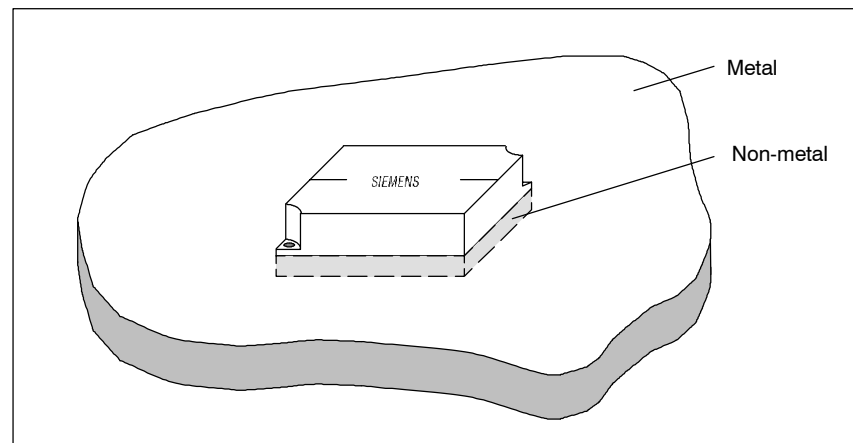

Figure 3-15 Installation on metal carrier
- Installation on plastic holder (see figure 3-15)